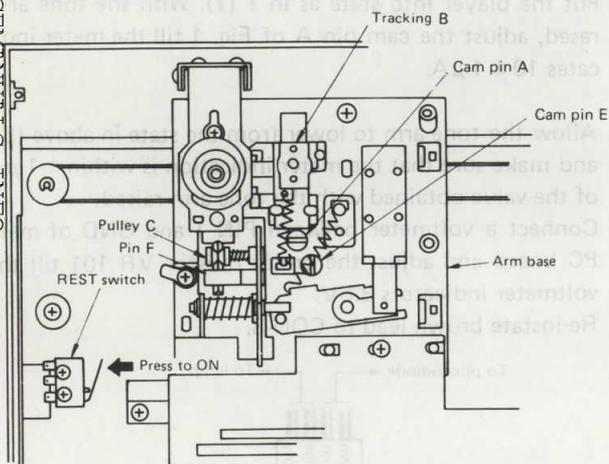

Fig. 1
Remove the main turntable belt and the horizontal motor belt. With no record, lift the tone arm base with the finger and move it to the centre of turntable. Press the lever of REST micro switch to put the switch into the ON state. (See Fig. 1)
- 1) Put the player into a state as in 1 (1). Press the LIFT/CUE button to lower the tone arm. Press again the LIFT/CUE button to raise the arm and make sure that the arm rises without tilting to right or left. If the arm tilts to either right or left, allow the arm to lower and adjust a screw of pulley C (Fig. 1) until the tone arm rises and lowers without tilting.
- 1) Put the player into a state of 1 (1). With the tone arm raised, turn the pin F to adjust the clearance between the pulley C and pin F (shown in Fig. 1) to  $0.5 \pm 0.3$  mm.
- 5) Put the player into state as in 1 (1). With the tone arm raised, adjust the cam pin A of Fig. 1 till the meter indicates  $10 \pm 1 \mu A$ .
- 6) Allow the tone arm to lower from the state in above (5), and make sure that the meter indication is within  $\pm 1 \mu A$  of the value obtained with the tone arm raised.